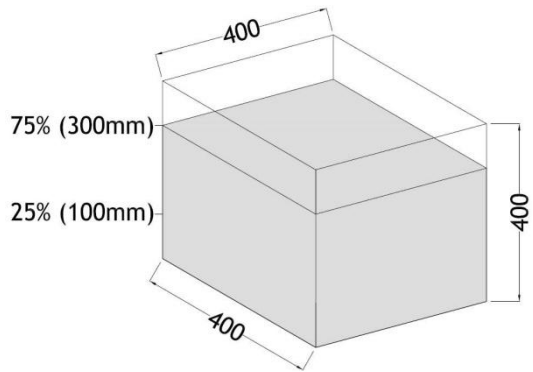

Fig 2
- Fill the hole with water to 75% (300mm) of the excavated height shown in Fig 2